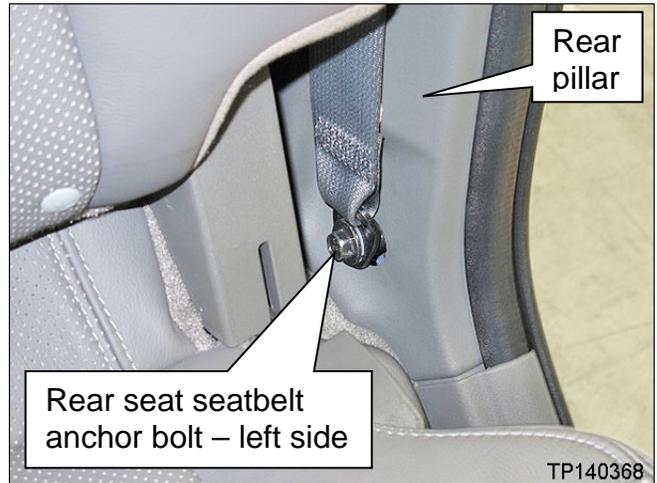

Figure 3
1. Locate and remove the two rear seat seatbelt anchor bolts located in the rear pillars (see Figure 3).